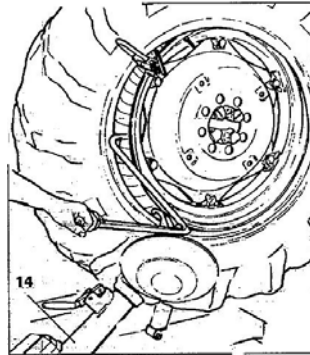

Fig.7.15
- 21) Move the tool carrier arm (14, Fig.7.15) to its working position.
- 23) Turn the spindle a little clockwise until you can insert the bead guide lever into its seating on the hook tool (See Fig.7.15). This lever is furnished as an optional.